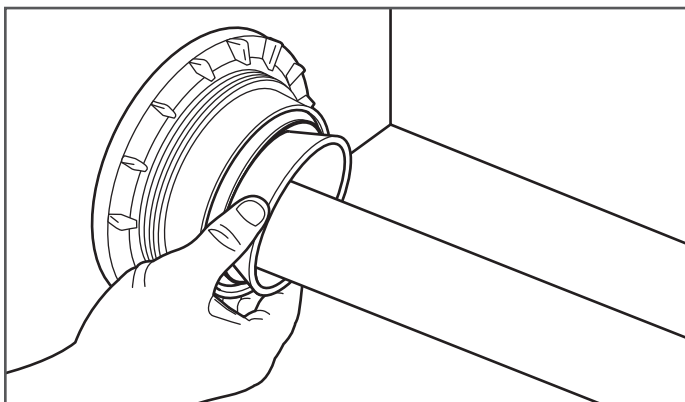

Figure 23-10
8. Insert DoubleTrac® piping through chase piping to the center point of sump. Insert Chase Pipe Crush Guard into the inside of chase piping (Figure 23-10).